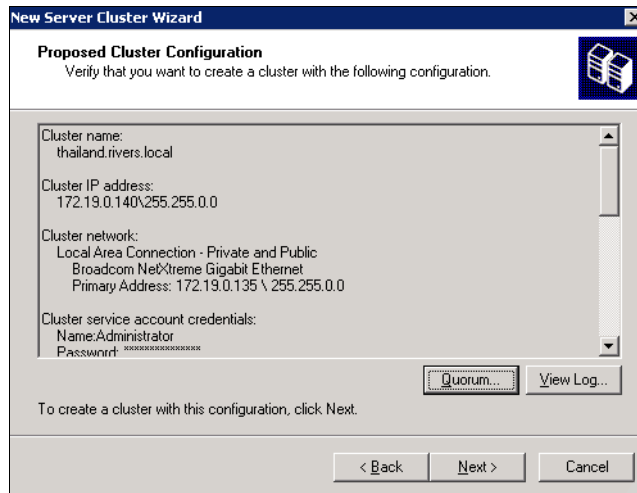

Figure 25-33 Proposed Cluster Configuration
10. Read the summary of the Proposed Cluster Configuration shown in Figure 25-33 on page 633. Click **Next** to start the cluster configuration.